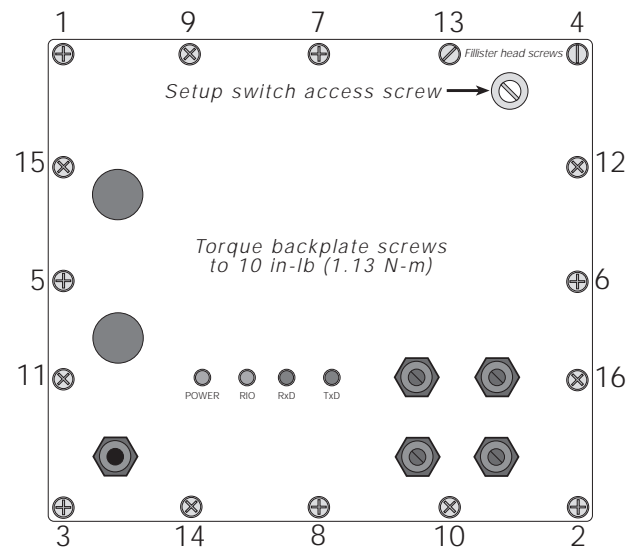

Figure 2-3. IQ plus 510/710/Remote I/O Backplate
21. Position the backplate over the enclosure and reinstall the backplate screws. Use the torque pattern shown in Figure 2-3 to prevent distorting the backplate gasket. Torque screws to 15 in-lb (1.7 N-m).
Once wiring and DIP switch configuration (see Section 2.3) are complete, position the backplate over the indicator enclosure and reinstall the backplate screws. Use the torque pattern shown in Figure 2-3 on page 3 to prevent distorting the backplate gasket. Torque screws to 10 in-lb (1.13 N-m).
Four LEDs on the IQ plus 510/710 backplate provide status information for the operator (see Figure 2-3 on page 3). Table 2-6 summarizes the function of the LEDs. See Section 6.0 on page 32 for more troubleshooting information.